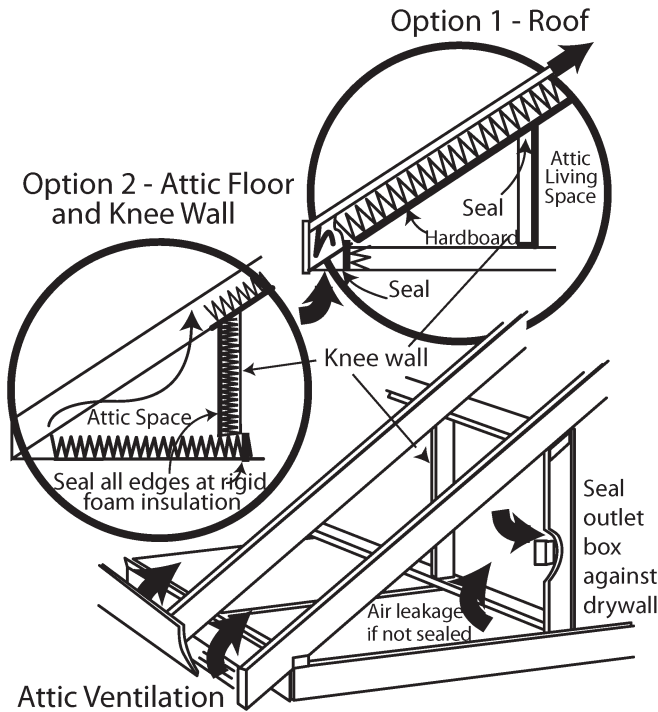

Figure 7-44. Above the Knee Wall “Cathedral Ceiling Section”
- 2) There is no top plate in the knee wall. Thus, you need to provide an air barrier using foam board or similar material to seal off the top of the wall from the space between the angled ceiling rafters (that support the finished attic ceiling) above the knee wall and the part of the angled roof deck above it. It is common to find that there is no top plate in this section of the angled rafters. A top plate must also be installed before dense packing these angled rafter sections surrounding conditioned attic space. Figure 7-44 shows above the knee wall in a Cathedral ceiling section.